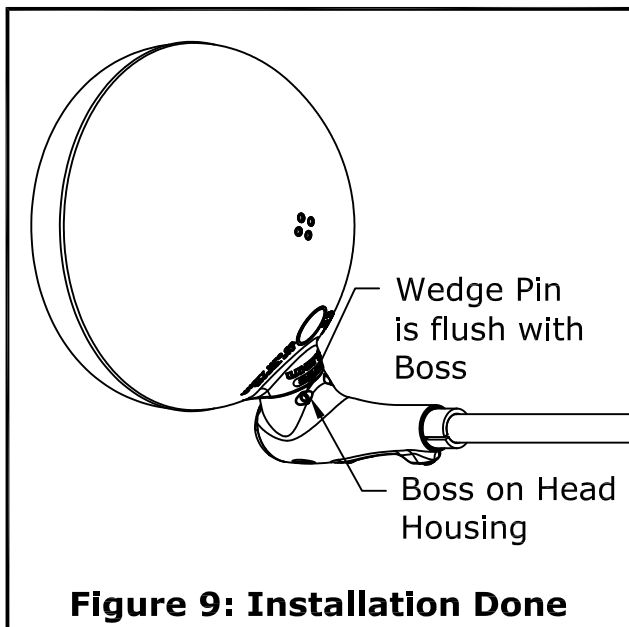
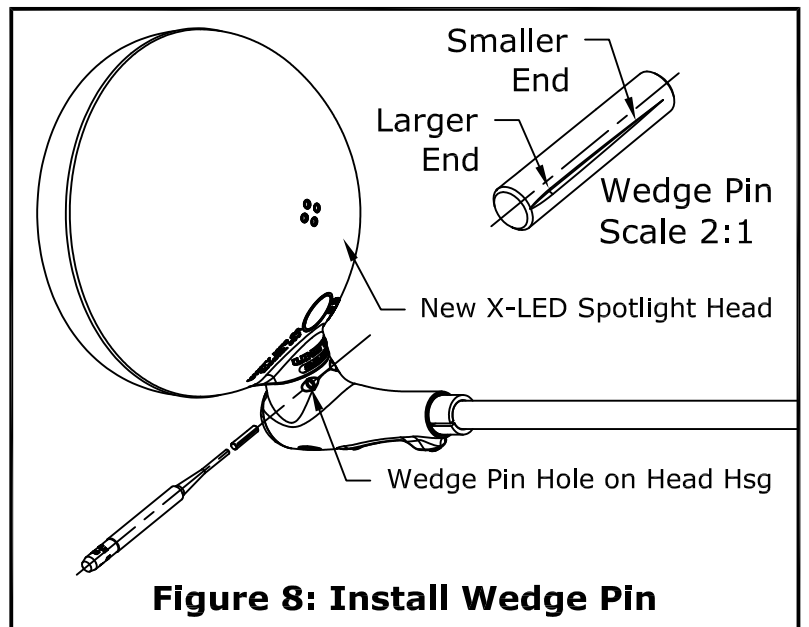

Figure 9: Installation Done
Figure 8: Install Wedge Pin
Wedge Pin has a slight taper, one end is slightly bigger than the other end as shown in Figure 8.
3) Install Wedge Pin (Figure 8 & Figure 9)